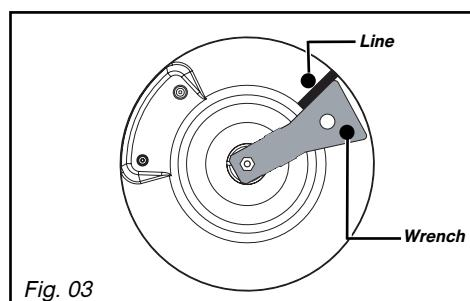

Fig. 03
In an existing system, a soft pipe fitted with clamps (compliant with the XP D 36-110 standard) whose service life is five years may be used. It is necessary in this case to use an adaptor without forgetting to fit a sealing washer between the adaptor and the hob's elbow. (Fig. 03).
- Turn the wrench clockwise until the line appears on the other side (*Fig. 03*).